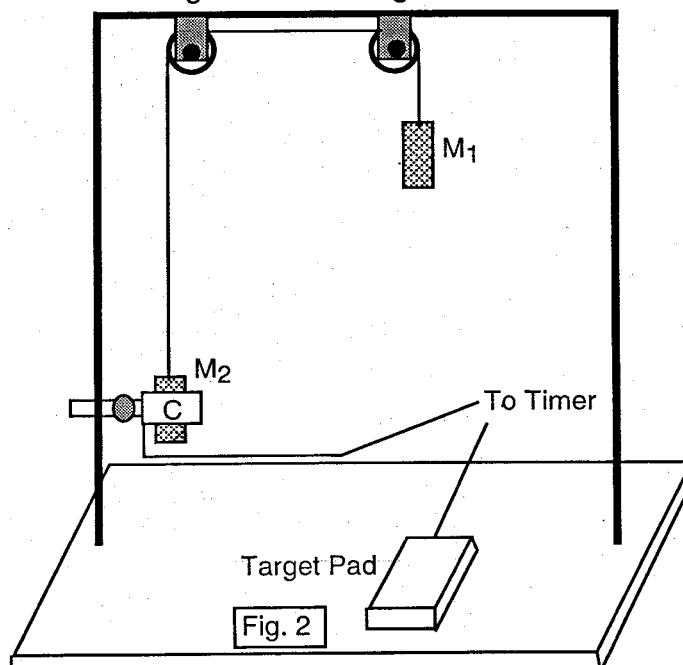

Fig. 2
An Atwood machine (Fig. 2), a timer, weights.
1. Study the working of the Atwood machine apparatus (Fig. 2) carefully. The masses M_1 and M_2 are tied at the ends of a light string passing over two smooth light pulleys. The lighter mass M_2 is held by a clamp C while the heavier mass M_1 hangs free. The timer should be reset before releasing the mass M_2 . As soon as the mass M_2 is released, the timer starts. Mass M_2 rises and mass M_1 falls. When mass M_1 hits the target pad, the timer stops. Thus the time of fall of M_1 is measured.